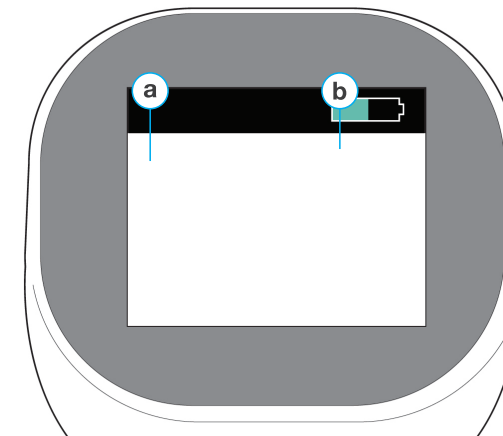

Figure 8 The parts of the Handset Display
- **Handset Display** – Guides the user through delivering treatment (see Figure 8).